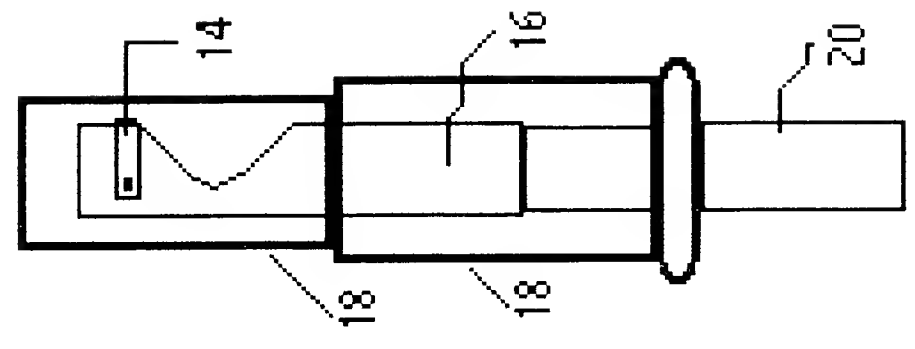
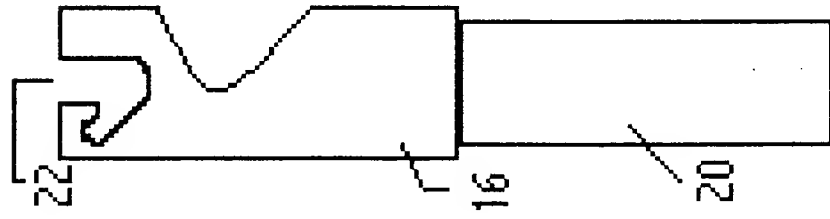
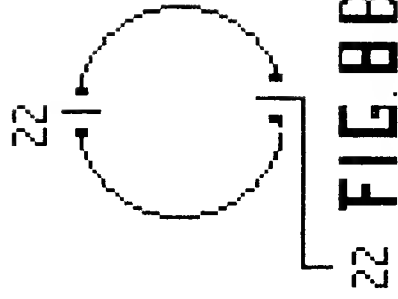

FIG. 7
FIG. 8
FIG. 8B
- Fig 7 shows ~~conventional~~ ^A SPARK plug wire with stationary ~~(rubber)~~ ^{TERMINAL} SILICONE COVER boot.
- Fig 8B shows top view of Figs 8 and 8A.
The invention provides simple steps to connect and disconnect spark plug wires from spark plugs. For removal, slide rubber boot 18 (Fig 7) upward to expose enough metal clamp of plug wire 20 (Fig 8), press said metal clamp down, turn counter clockwise to release, since plug tip is spring-loaded, said metal clamp will be pushed out after it clears the slot pins. Compare to what mechanics are doing these days like twisting, pulling and yanking, this self-pop-up is a phenomenon. For installation, hold said metal clamp against matching slot pins (can be felt easily), once metal clamp clears said slot pins, press down and turn clockwise to lock, the spring will urge upon said metal clamp, forming a positive locking position, slide down said rubber boot firmly. With conventional snap and pull connections, even experienced mechanics can't be certain said connections are secured or just being snug, now they are black and white !